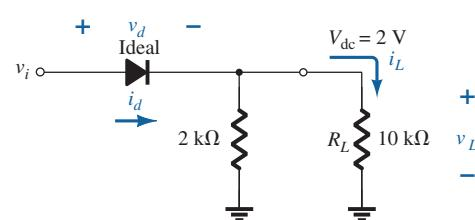

FIG. 169
24. Repeat Problem 22 with a 10 kΩ load applied as shown in Fig. 169. Sketch v_L and i_L .